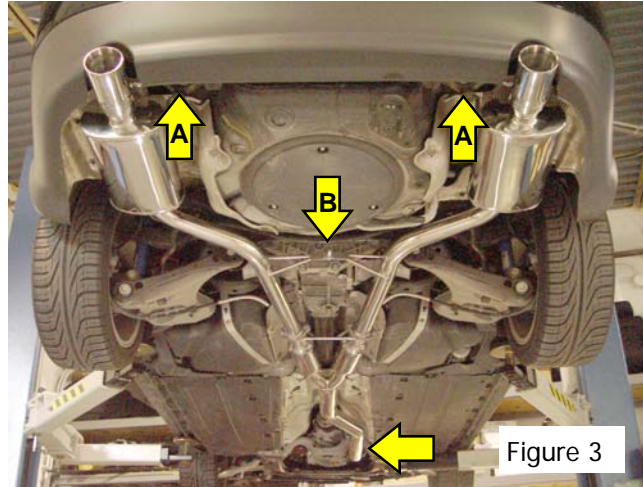

Figure 3
- Continue with installation by installing the midpipe and rear muffler sections. **Do not** tighten down the flange fasteners between these two sections at this time. **First:** align the tips properly in the exhaust valence openings, and **then** tighten down enclosed 3/8" hardware at Arrow B in **Figure 3**. After tightening this hardware, then go back and tighten the mid pipe to rear muffler flange bolts.
- Note that there are several adjustment points on the AWE exhaust to ensure proper fitment. Also note that the factory exhaust hangers are also adjustable with slotted bolt holes to allow further adjustments. Adjustment points on the AWE exhaust system are at all arrows in **Figure 3**.
- Minor height variances between the exhaust tips can be solved by rotating the exhaust at the downpipe to midpipe slip joint as well as slightly bending the rear muffler hanger posts (at Arrows A in **Figure 3**).